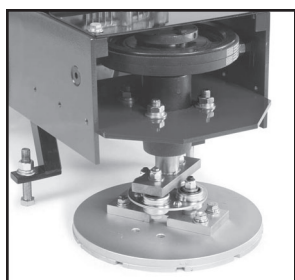

FIGURE 3
- Uses either a 10 or 20 segment 10" diameter diamond grinding discs to level, smooth or clean the top surface of concrete slabs. (FIGURE 3)